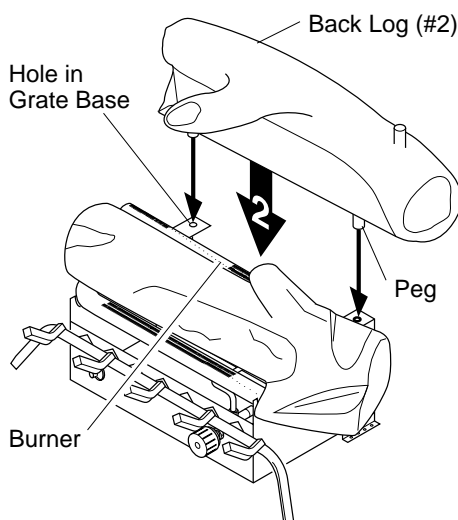

Figure 21 - Installing Back Log (#2)
2. Locate pegs on the bottom of back log (#2). Slide these pegs into the holes in the grate base behind the burner (see Figure 21).